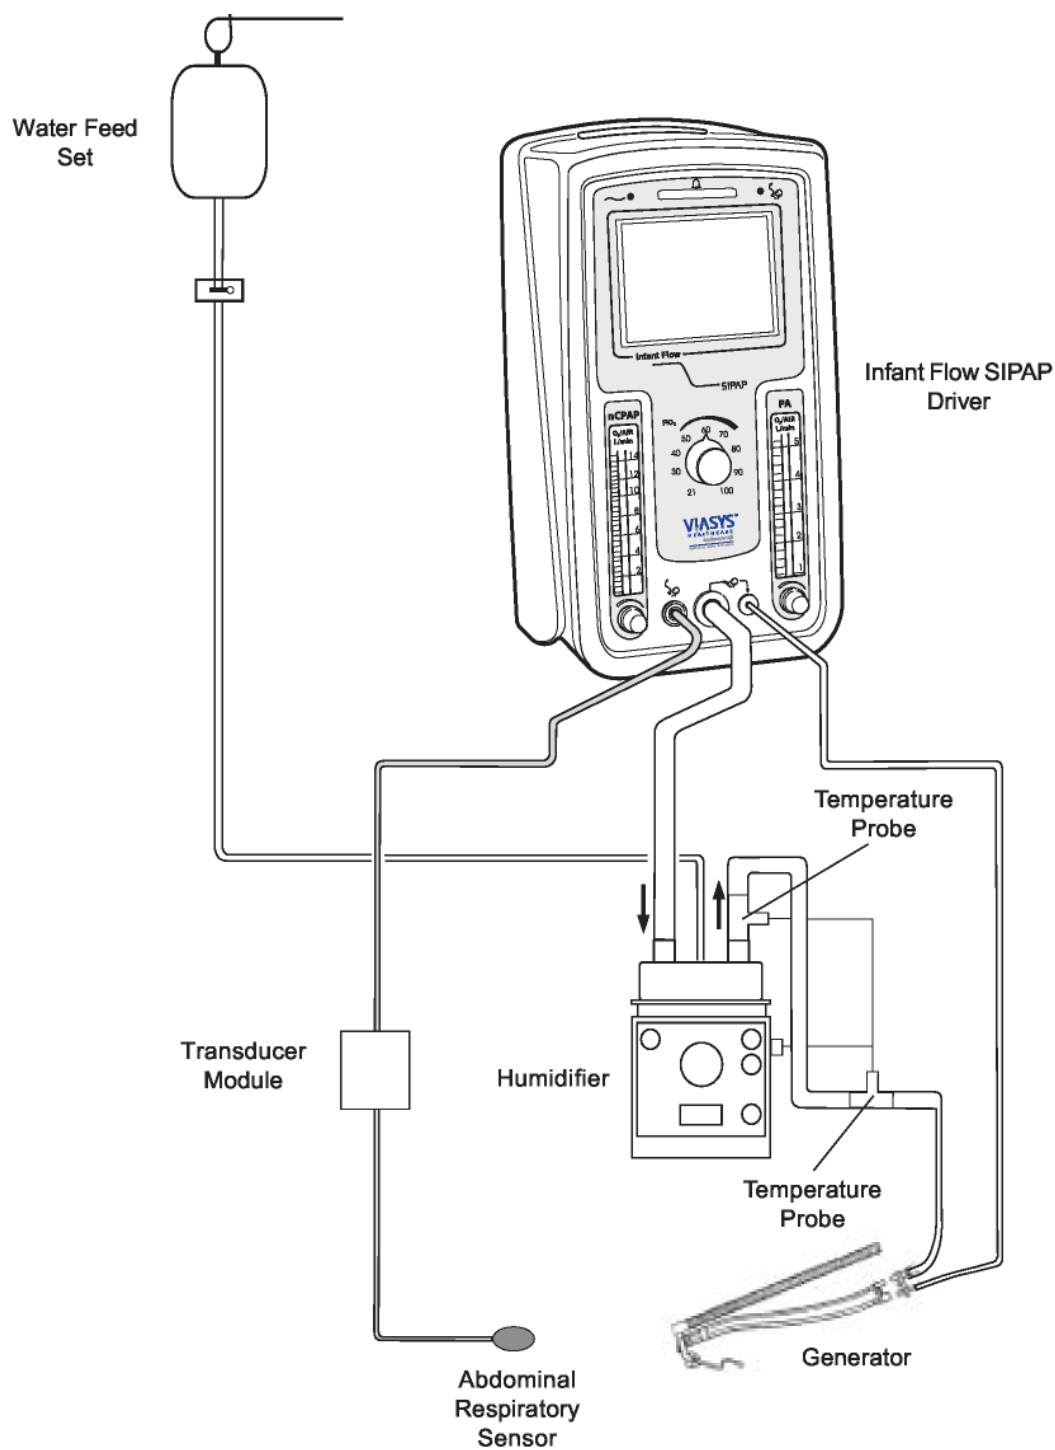

Figure 9: Patient Connections
- 3 Connect the patient circuit to the IFSD as required. Figure 9 shows a typical configuration, the actual configuration may vary dependent on the type of ancillary equipment used and the clinical needs prescribed for the patient. For functional test purposes, the Generator nasal prongs can be occluded to simulate patient responses.